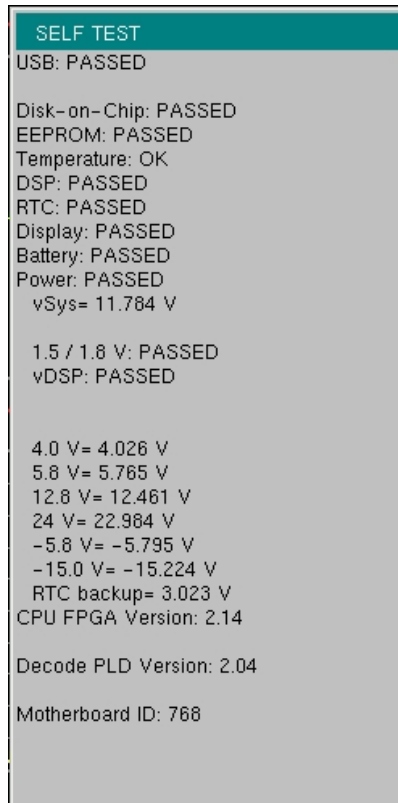

Figure B-1. Self Test Results Window
To run self test, press **Shift** and **System** (8) and then **Self Test**. Refer to the results window in Figure B-1, which summarizes the status of several key functions in the instrument that are common to all applications (note that your instrument display may differ from this image). If any subtest shows **FAILED**, then check that the battery level is adequate for operation, or check that the temperature is within acceptable limits. Reset to factory defaults with either **Factory Defaults (Esc+On)**, or **Master Reset (System+On)**.